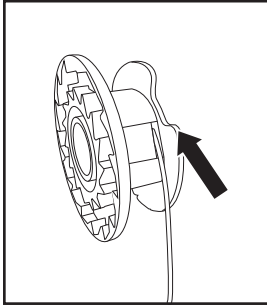

Fig. 26
2. Hold the trimmer head (12) steady with one hand. Press the release latches (12b) on both sides to remove the cover (12a).
7. Lead one end of the new trimming line (12d) through the small eyelet on the trimming spool (12c) in direction of the arrows (Fig. 26).